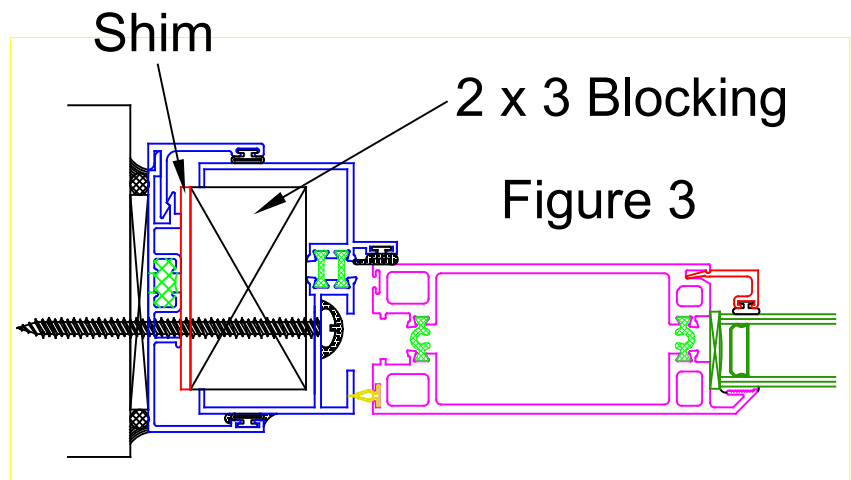

Figure 3
- F. Apply shims and/or blocking at each hinge and fastener location (See figures 3 and 4). The door must be level, plum and square in accordance with Table 1 shown on the previous page. If the accessible sill is being used, the squareness tolerance of the door shall be reduced to 1/16" maximum, and the straightness of the sill will be reduced to 1/32" maximum at any point.